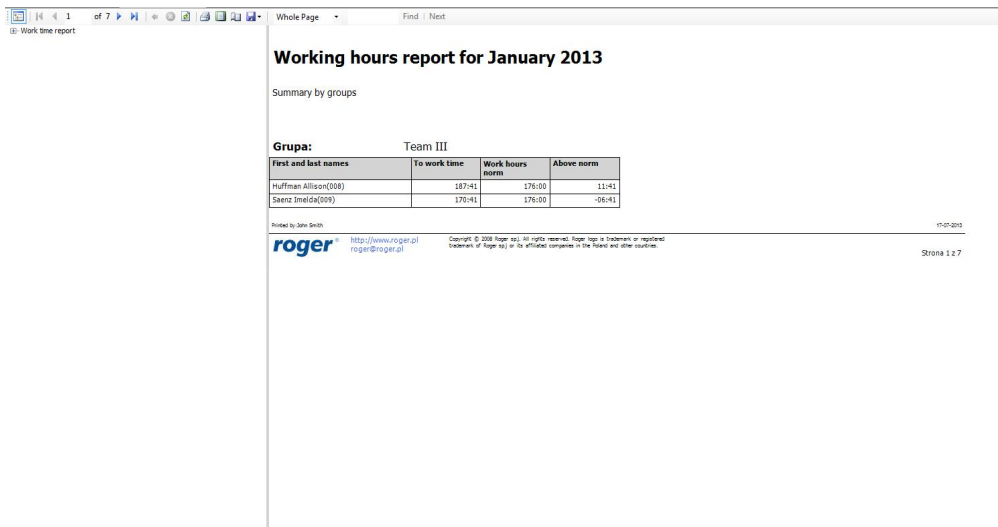

Figure 27. First attempt at creating report
- 4. Click **PRINT** button. Report shown in Figure 27 will display.